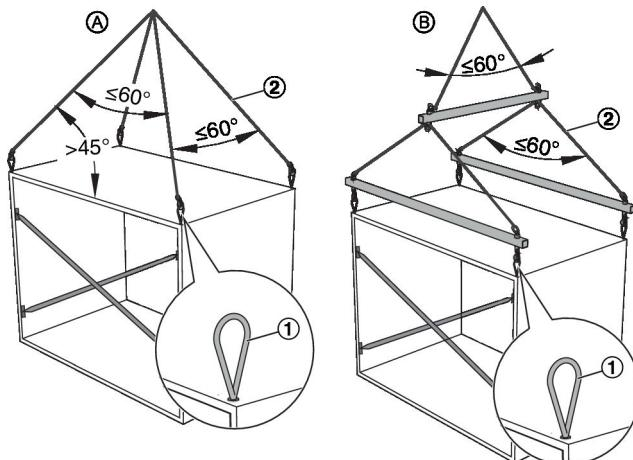

Fig. 7: Using lifting eyes for moving units with a crane
- (A) Moving units with ropes/chains
- (B) Moving units with a spreader beam
- ① Lifting eye
- ② Slings
- Insert all lifting eyes (Fig. 7 /1) completely into the threaded holes.
- Hook the slings (Fig. 7 /2) into the lifting eyes.